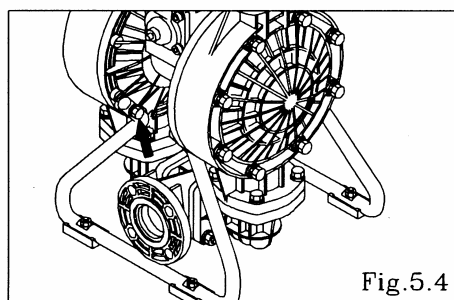

Fig.5.4
See [9. Exploded View] on after p. 13. (Fig. 5.4 shows the NDP-40 BP□.)
- Remove the 8 (4 on the NDP-40) retainer bolts from the stand body, and remove the stand body. [Fig.5.4]